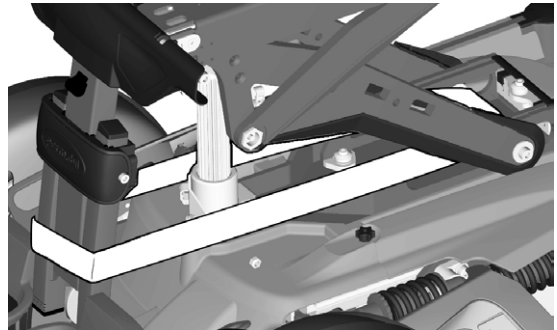

Figure 119. Secure the position of the seat by positioning a strap between the legrest and the AP Elevator axle.
2. Secure the position of the seat by positioning the strap between the legrest and the AP Elevator axle. See fig. 119.